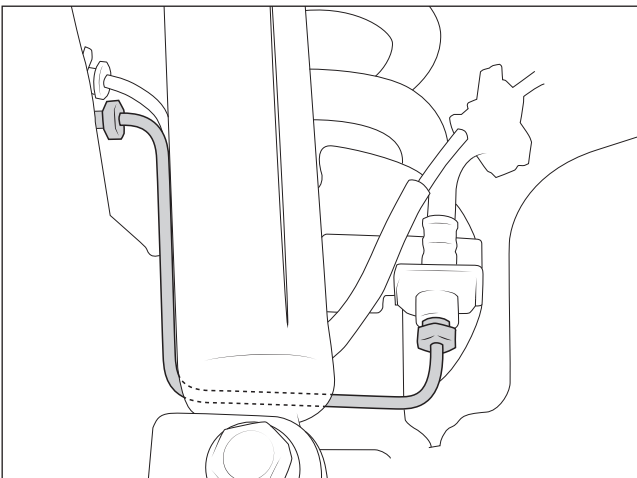

Figure 3
- b. Remove the steel brake lines between the two flexible lines (fig. 3).